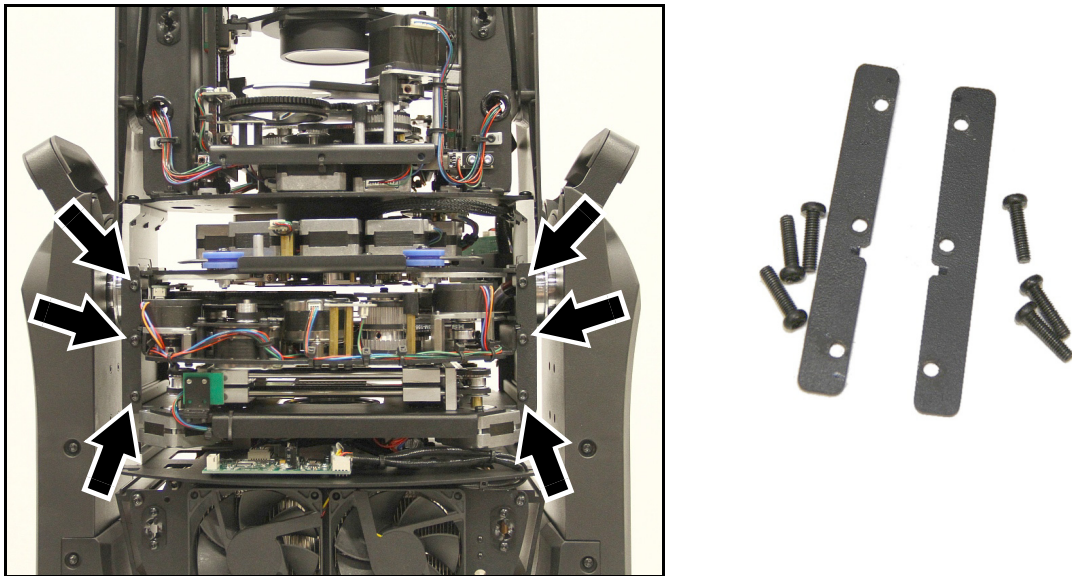

Figure 13: Removing the effects module retaining plates
5. See Figure 13. Rotate the head through 180° so that you are looking at the top of the head. Remove the six screws (arrowed) from the effects module retaining plates and keep the plates and screws for re-use.